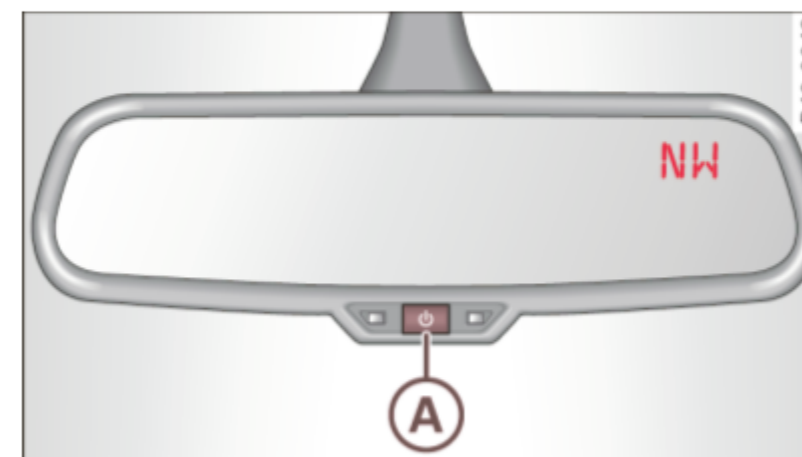

Fig. 56 Inside rear view mirror: digital compass activated
- Hold the **(A)** button ⇒ *page 65, fig. 56* down until the number of the set magnetic deflection zone appears on the interior rear view mirror.